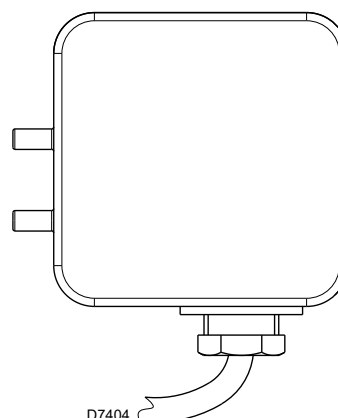

Fig. 28
- Adjust the air pressure switch (Fig. 28) to the start of the scale.
Adjust the air pressure switch (Fig. 28) after performing all other burner adjustments with the air pressure switch set to the start of the scale. With the burner function at the required output, turn the knob slowly in a clockwise direction until burner lockout.